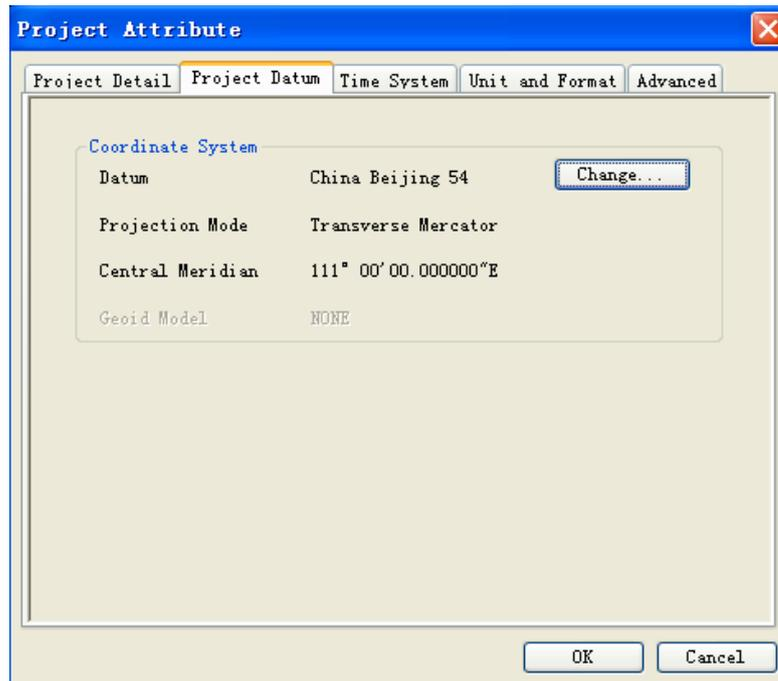
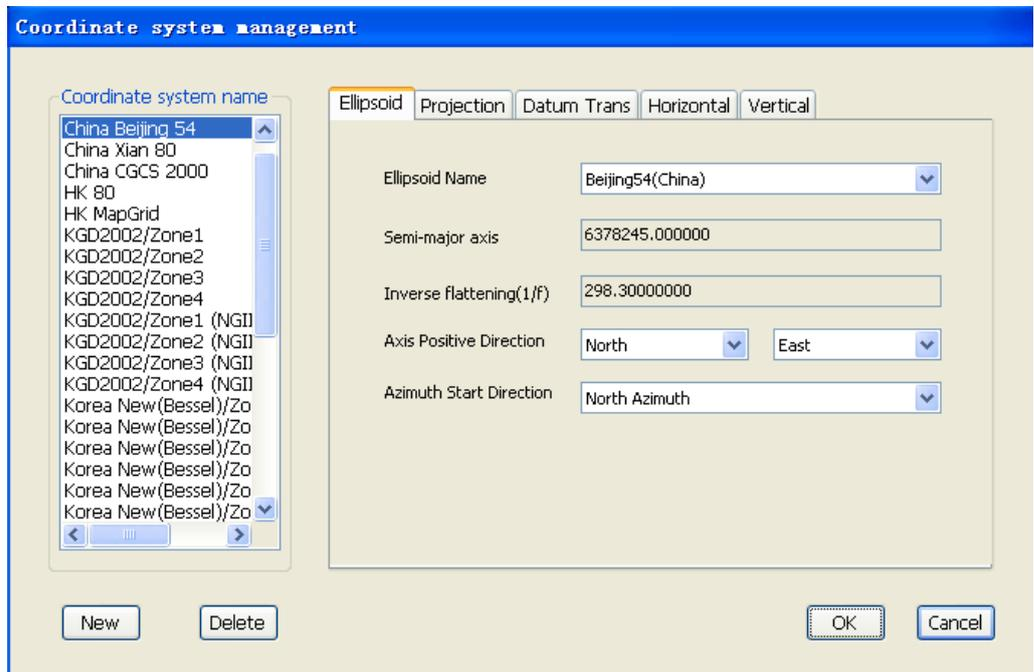

Figure 1-3 Project Datum
Figure 1-4 Coordinate System Management
(3) Click **Project Datum** to switch to the Project Datum tab (see Figure 1-3). Then Click change button, and coordinate system management dialog will appear, as shown in Figure 1-4.